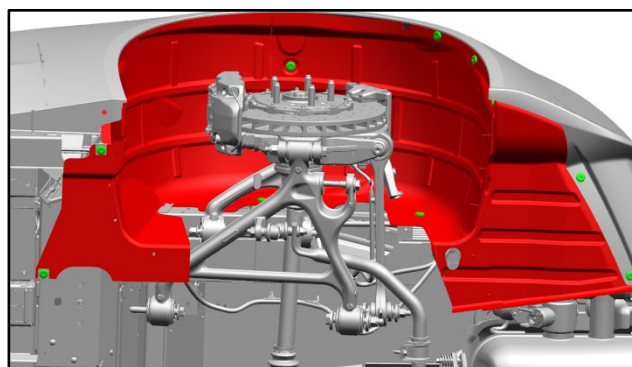

Figure 10
17. Remove the twelve attachments (refer to parts identified in green in Figure 10) and remove the wheel arch liner on the two sides.